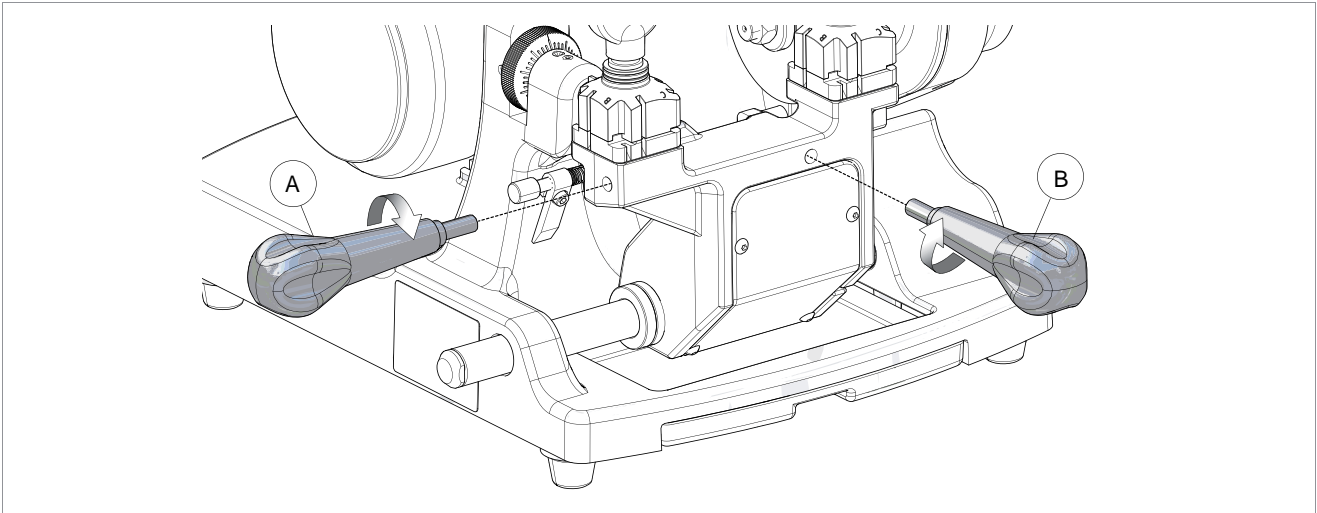

Fig. 15
- handle (B) on the Speed 040 and 044 models.
- handles (A) and (B) on the Speed 045 and 046 models (Fig. 15).